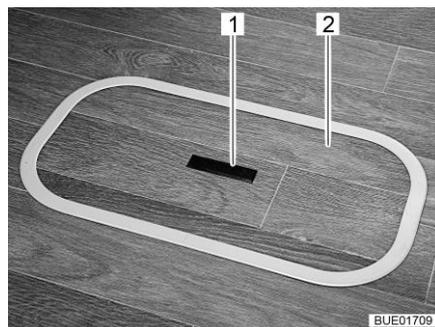
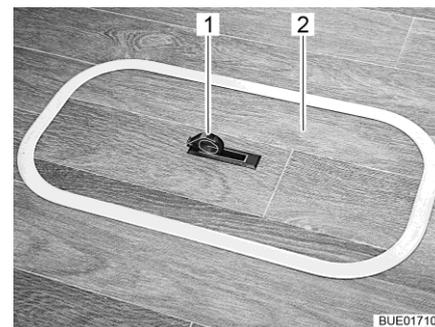

Fig. 63 Floor compartment cover
Fig. 64 Floor compartment cover
- Push one side of the grip plate (Fig. 63,1) downwards. The handle (Fig. 64,1) swivels upwards.
- Remove the cover (Fig. 63,2 or Fig. 64,2) upwards.